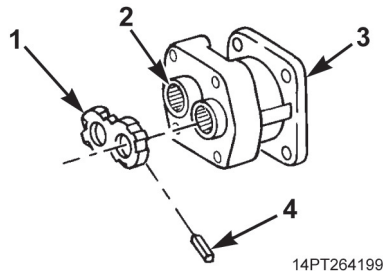

Figure 8. Pocket Seal Installation.
4. Cut two pocket seals (Figure 8, Item 4) 3/16 in. (4.8 mm) long and place in center slots of thrust plate (Figure 8, Item 1). Use light grease to hold in place. Place thrust plate, with pocket seals facing machined surface, over roller bearings (Figure 8, Item 2) of end housing (Figure 8, Item 3) and tap to about 1/32 in. (0.8 mm) from machined surface.
5. Insert remaining four pocket seals (Figure 8, Item 4) into place around thrust plate (Figure 8, Item 1). Tap thrust plate down onto machined surface. Cut excess seal from thrust plate.